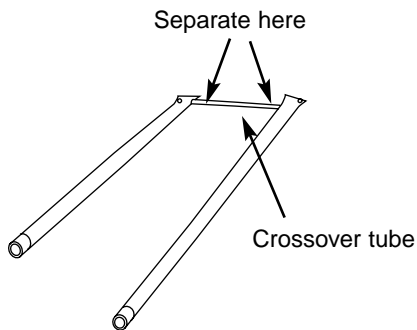

Figure 14
10. Lift and twist the burner assembly slightly to separate the crossover tube from the burners. Remove the burners from the cooking box. Figure 14.